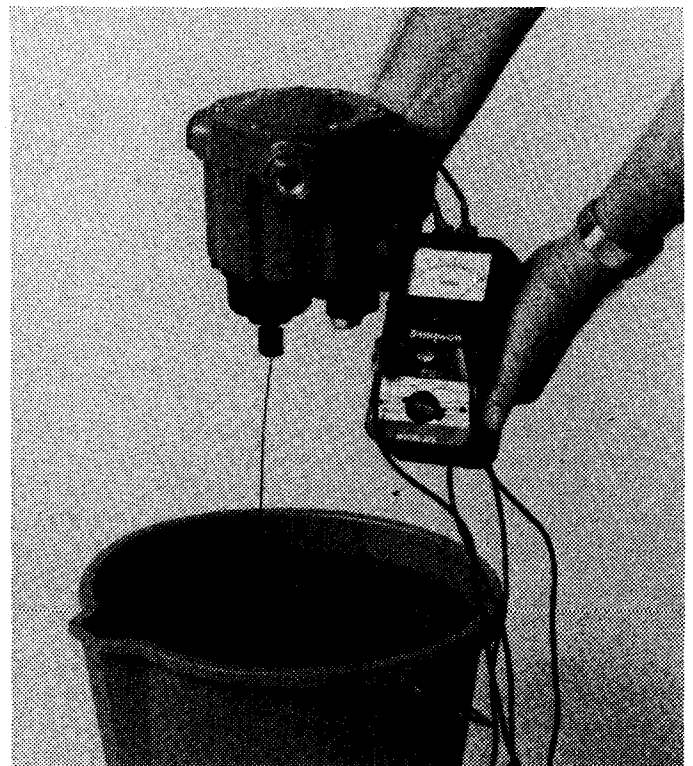

FIG. 10
- c. Hold switch vertical and lower switch so that weights will submerge in a bucket of water. When upper weight is about $\frac{1}{2}$ out of water, switch should go on showing completed circuit on ohmmeter. Fig 10.